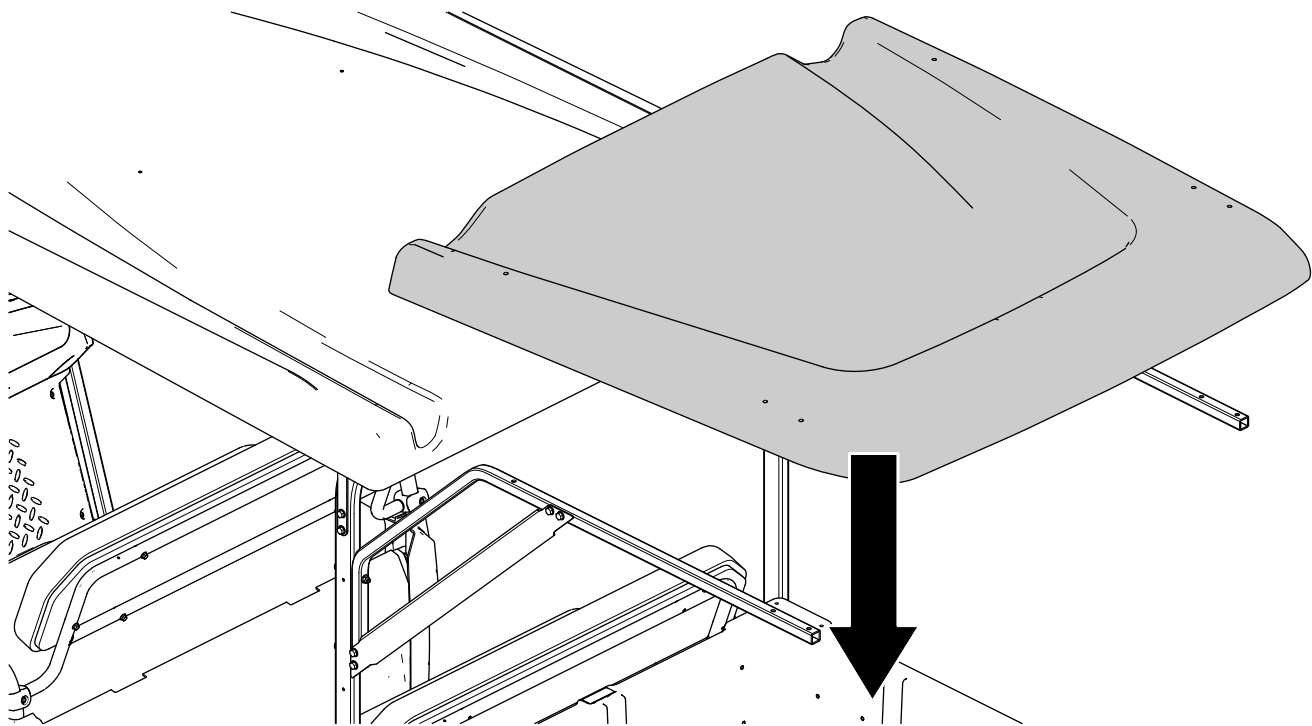

Figure 4
1. Place the canopy extension on top of the installed rear tube mounts (Figure 4).